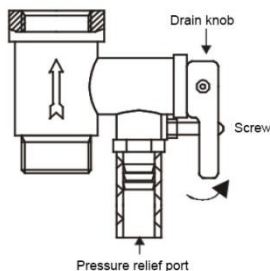

Fig 8
4. Screw the safety relief valve on the inlet nozzle, which is marked in blue and has a water flow direction arrow in such a way that the water flow coincides with the direction of the arrow on the valve body. Put the water drainage tube* (water may appear during heating) on the pressure relief port of the safety relief valve to allow water drainage into the sewer (see Fig. 8) (the tube must be directed downwards and must not be bent).